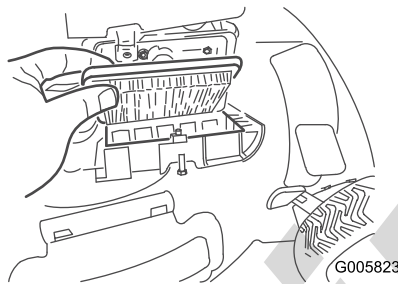

Figure 20
2. Replace the air filter (Figure 20).